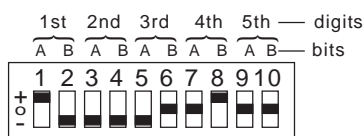

Fig.3 : SK-919TT1S-BU PCB Diagram.
1. Unlike the SK-919TD2A-U & SK-919TD1S-U PCBs, the SK-919TT1S-BU PCB has a series of DIP switches instead of traces. See Fig.3.